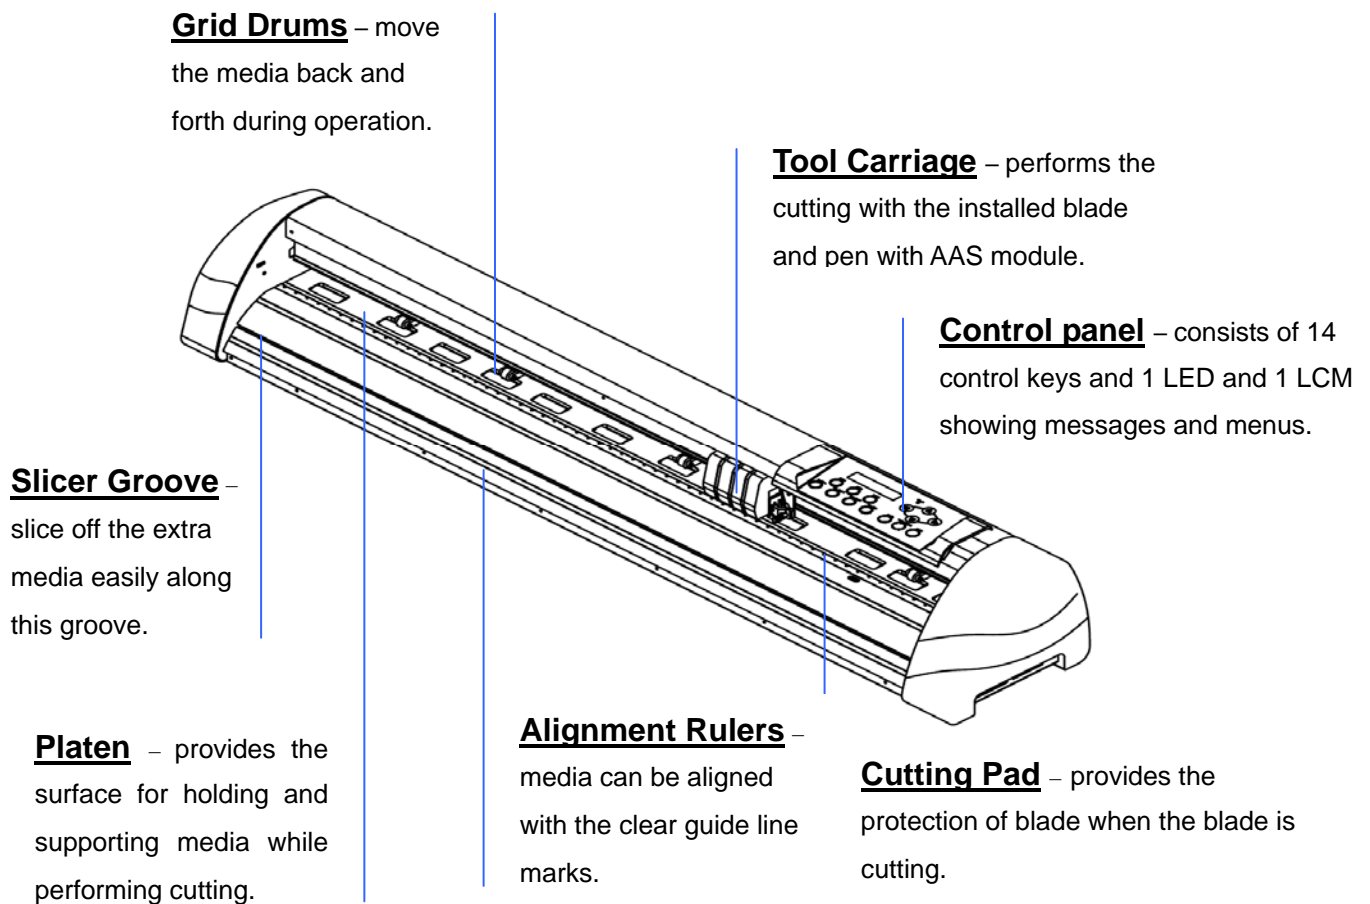

Figure 1-1
1.4.1 The Front View (Figure 1-1)